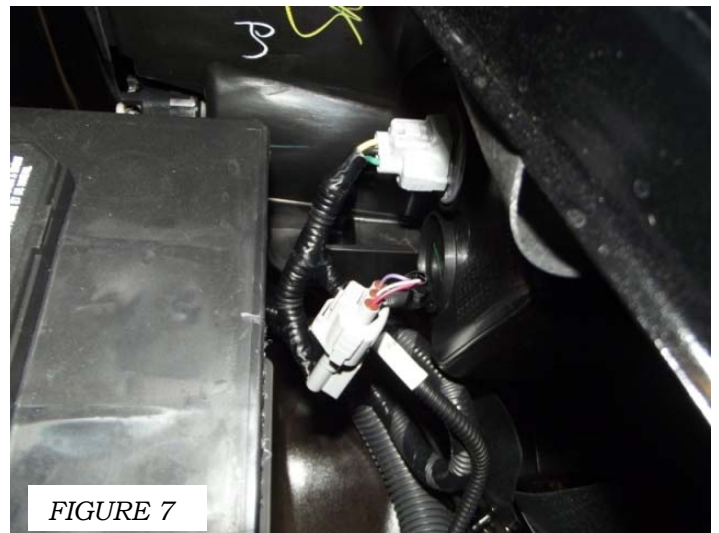

FIGURE 7
3. REMOVE THE LEFT PARKING LIGHT CONNECTOR. CONNECT THE SUPPLIED DRL TUNDRA PATCH HARNESS TO THE VEHICLE PARK LIGHT CONNECTOR AND THE PARK LIGHT SOCKET AS SHOWN IN FIGURE 7.